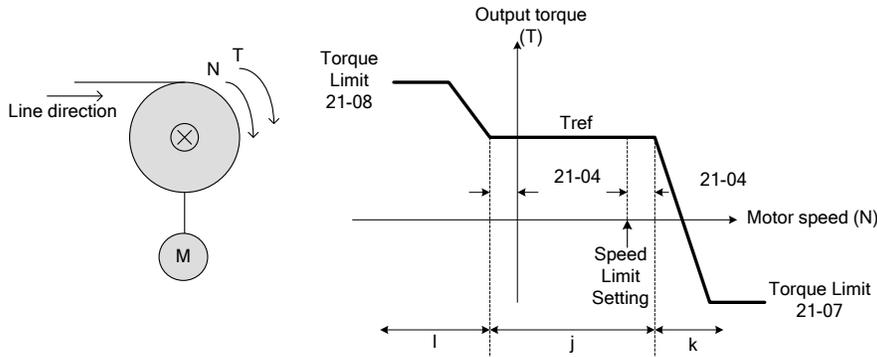

Figure 4.4.125 Winding operation
The line speed (N) and motor torque (T) are in the same direction of the motor. Refer to Figure 4.4.125